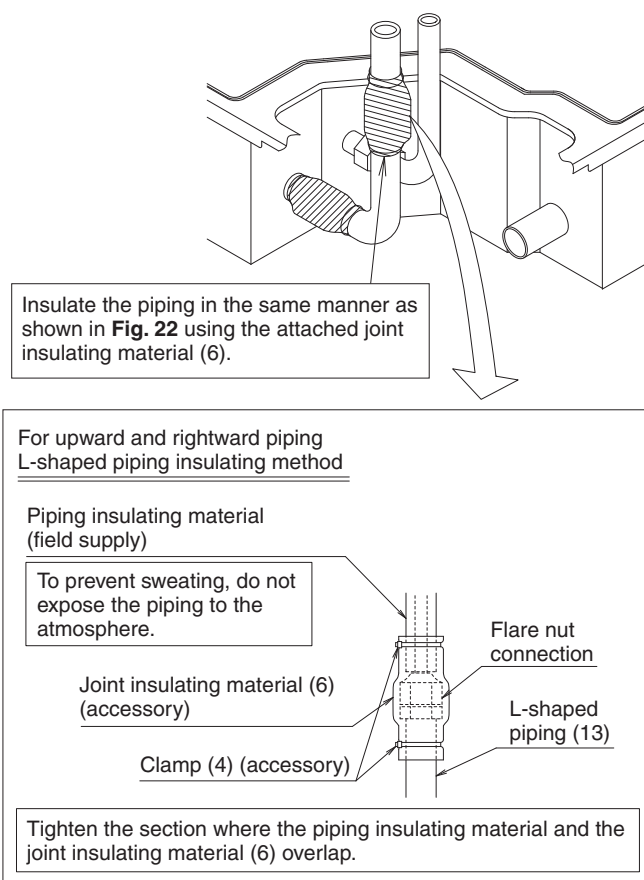

Fig. 23
- Wrap the sealing material (Small) (9) around the joint insulating material (6) (7).
- Make sure to bring the seam of joint insulating material (6) and (7) to the top.
- When carrying out upward and rightward piping, use the attached L-shaped piping, and insulate the 2 places of connection. (**Refer to Fig. 23**)